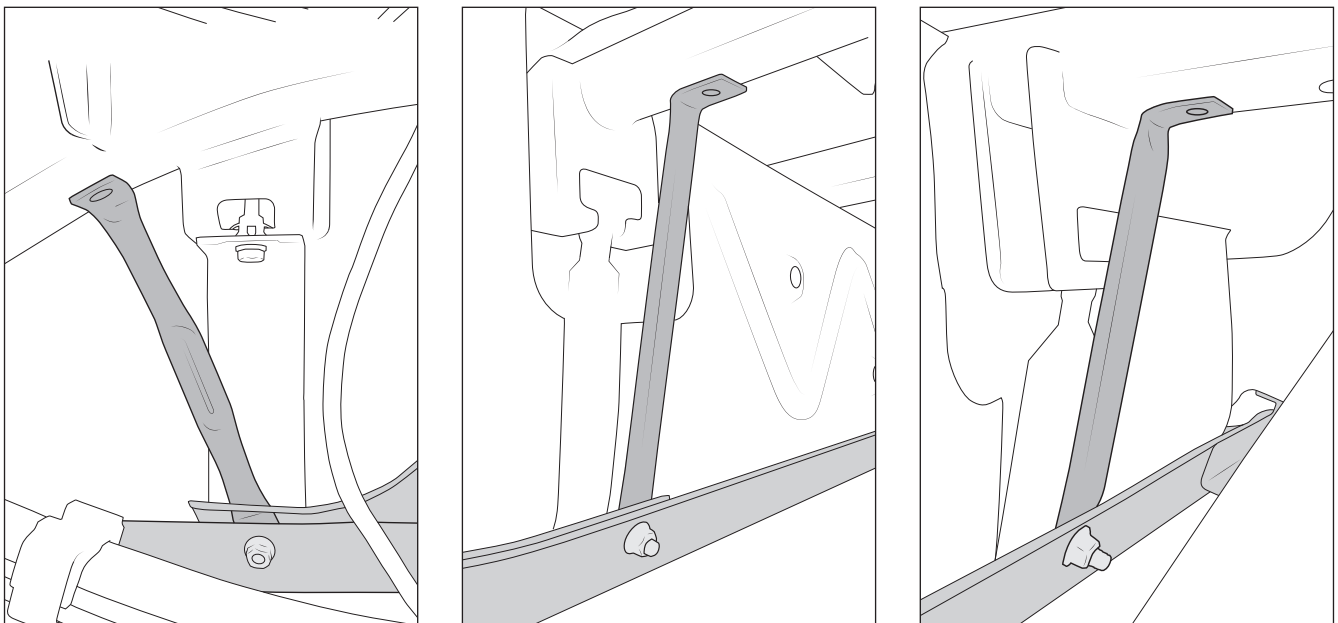

Figure 4: Outboard/Rear (left) Inboard/Rear (center) Inboard/Front (right)
4. Loosely install all three pencil braces onto the Fuel Skid using QTY 3 M10 Nuts. The angled pencil brace should be installed on the outboard/frame side of the fuel skid (fig. 4). NOTE: Outboard hole may be pre-drilled on later models.